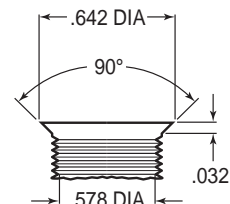

Figure 3. Drill and Tap Detail
•**NOTE:** Some spindles in this year range may require the following modifications (reference Figure 1 and Figure 3): Top anchor pin hole (Z) must be drilled and tapped to the dimensions as outlined in Figure 3. The lower bolt hole (Y) in the spindle used to mount the new caliper bracket, and the mating steering arm hole, must be enlarged to .50" by drilling. It is recommended these modifications be performed by a qualified machinist.
- Install wheel studs (7) into the hub (8), Photo 1. Torque to 77 ft-lb. **NOTE:** There are two five lug patterns in the hub (5 x 4.50 and 5 x 4.75). Ensure the correct hub stud pattern is being used to fit the wheel application.